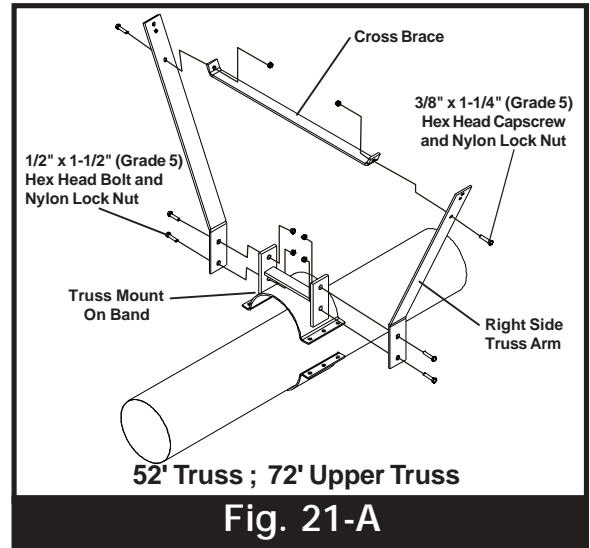

Fig. 21-A
C. 62' Truss Assembly (See Fig. 21-B)
1. Attach right and left truss arms to the right and left sides of the track using two (2) 5/8" x 1-1/2" hex head bolts (grade 5) with nylon locknut. **TIGHTEN ONLY FINGER TIGHT AT THIS TIME.**
2. Fasten lower and upper truss cross braces in between the right and left side truss arms using four (4) 3/8" x 1-1/4" (grade 5) hex head bolts and nylon locknuts.